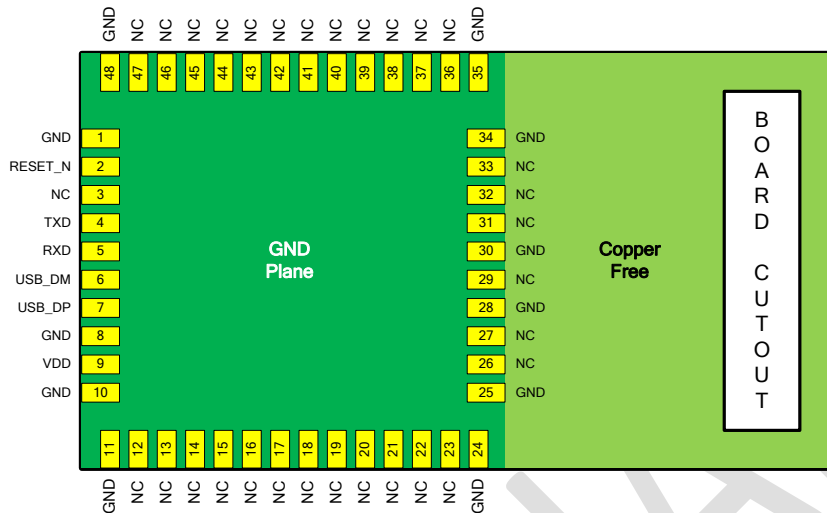

Figure 4.1: Pad layout (top view)
The layout of the Exposed Pads (EP) on the ZM5304 Modem is shown in Figure 4.1.